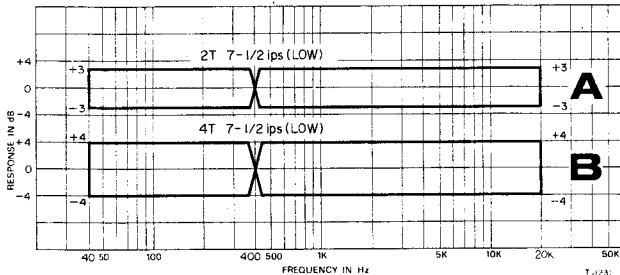

Fig. 8-6 Frequency Response (A) (B) – PLAYBACK –
- 16. Play Tape and compare reading on VTVM with the response limits given in Fig. 8-6 (A) (B).